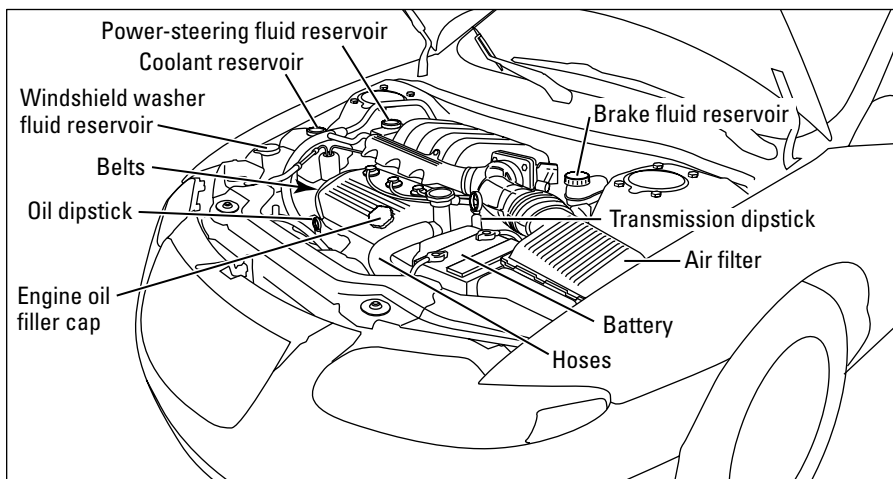

Figure 2-1: Where to find parts under the hood.
Once a month, in the morning before you've driven your vehicle, arm yourself with a clean, lint-free rag and the household tools mentioned in this chapter, and open the hood of your vehicle. (If you've never done that, flip back to Chapter 1.) Then check the items in the sections that follow. The checkup may take a bit longer the first time you do it, but after that you should be able to whip through this check in about 15 minutes. As a matter of fact, you may want to grab this book and your *owner's manual* (if you have one), go out to your vehicle, and locate each part while you read. Figure 2-1 helps you find each part. Make a game of it. Enjoy!
- ✓ **Rather than open the cap on the radiator, just check to see whether the liquid reaches the “Full” line on the side of the coolant reservoir.** (That's the plastic bottle connected to the radiator that holds an extra supply of liquid, as shown in Figure 2-1. It's part of the **coolant recovery system**.) If the liquid doesn't reach the “Full” line, open the bottle and add a 50/50 mix of water and coolant until it does.